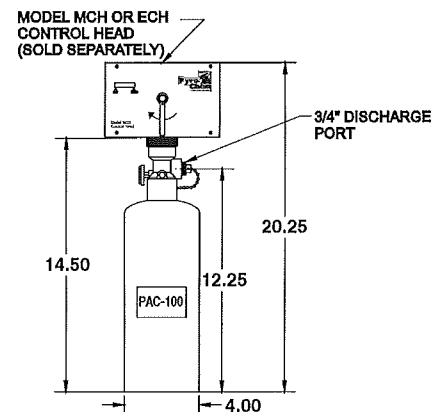

Figure 2.7. Model PAC-10 Pneumatic Actuating Cylinder.
The Model PAC-10 is a pneumatic actuating cylinder that can actuate a maximum of ten (10) agent cylinders simultaneously. The Model PAC-10 includes a DOT 4B350 cylinder pressurized with dry nitrogen to 350 PSIG @ 70° F., a brass valve with pressure gauge, and a wall mounting bracket. A Model MCH or ECH control head must be purchased separately and connected to the PAC-10 to open the valve. See **Figure 2-7**.